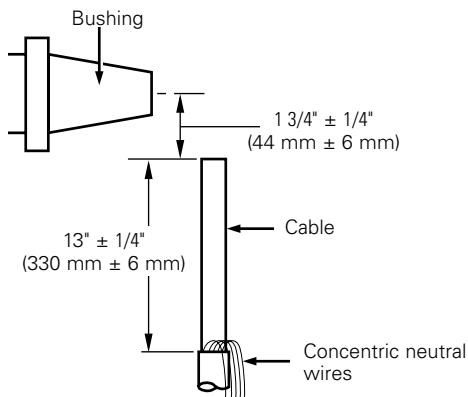

Figure 15. Line illustration of removing concentric neutral wires.
- Measure 13" (330 mm) from end of cable. Refer to Figure 15.
- For unjacketed neutral cable, bind neutral wires using three (3) wraps of tape at 13" dimension.